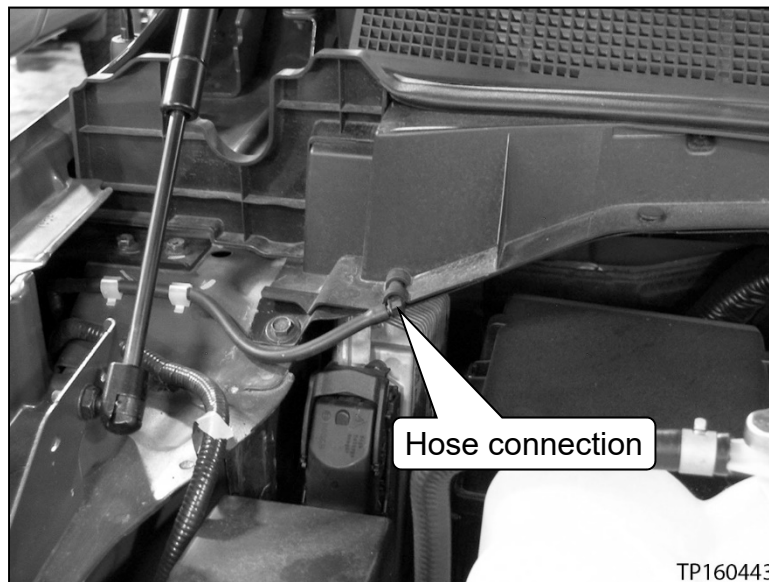

Figure 9
- d. Disconnect the washer nozzle supply hose (see Figure 9).